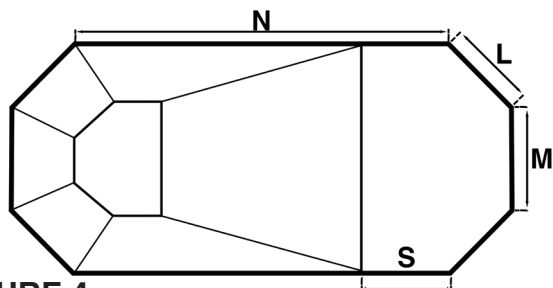

FIGURE 4
Grecian pools require additional dimensions around the perimeter of the pool. These include the end panel (M), the straight wall (N), and the corner panel(s) (L). Also, verify the corner to the shallow break measurement (S). Verify that each corner panel measurement around the pool are equal. If they are not, please indicate that information in a drawing or on the MEASURING FORM. Refer to Figure 4.